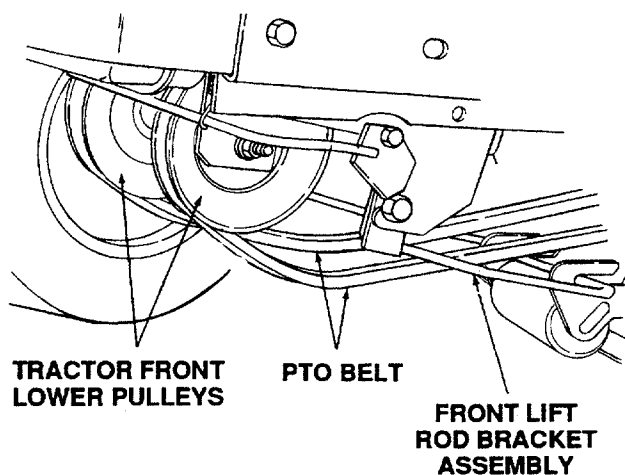

Figure 43
5. Pass the PTO belt downward, inside the tractor frame, until the belt is below the two tractor front lower pulleys and pull the belt clear of the tractor (Refer to Figure 43).